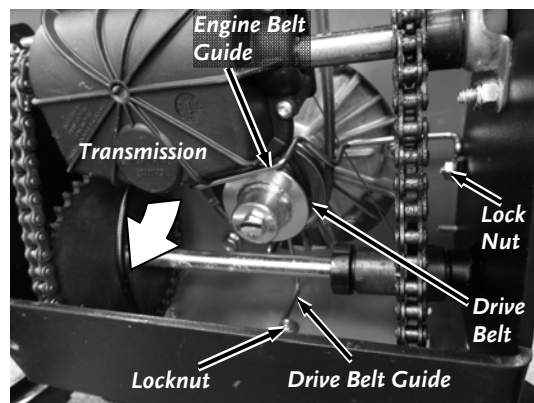

Figure 37
8. Loosen the rear Drive Belt Guide Locknut using a 7/16" Wrench and rotate the Guide out of the way (Figure 37).
17. Tighten the Belt Guide Locknut (**Figure 37**).